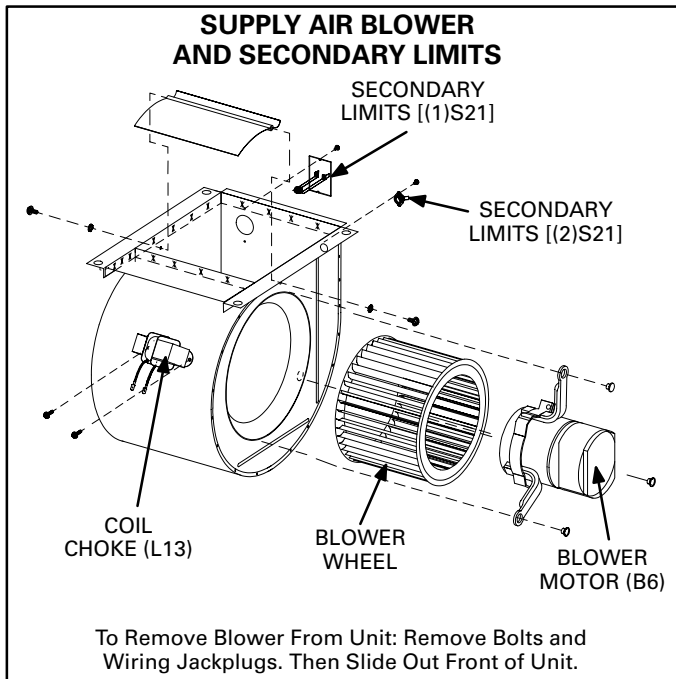
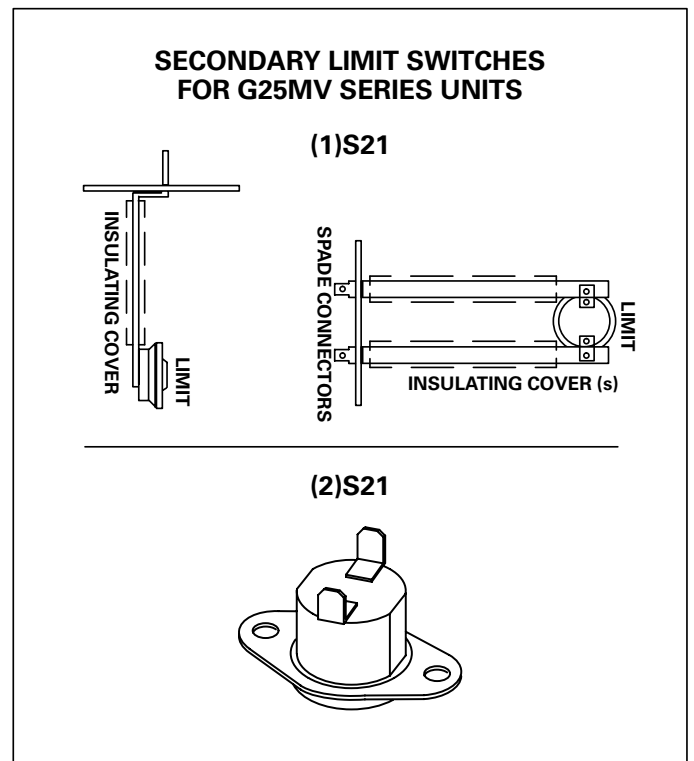
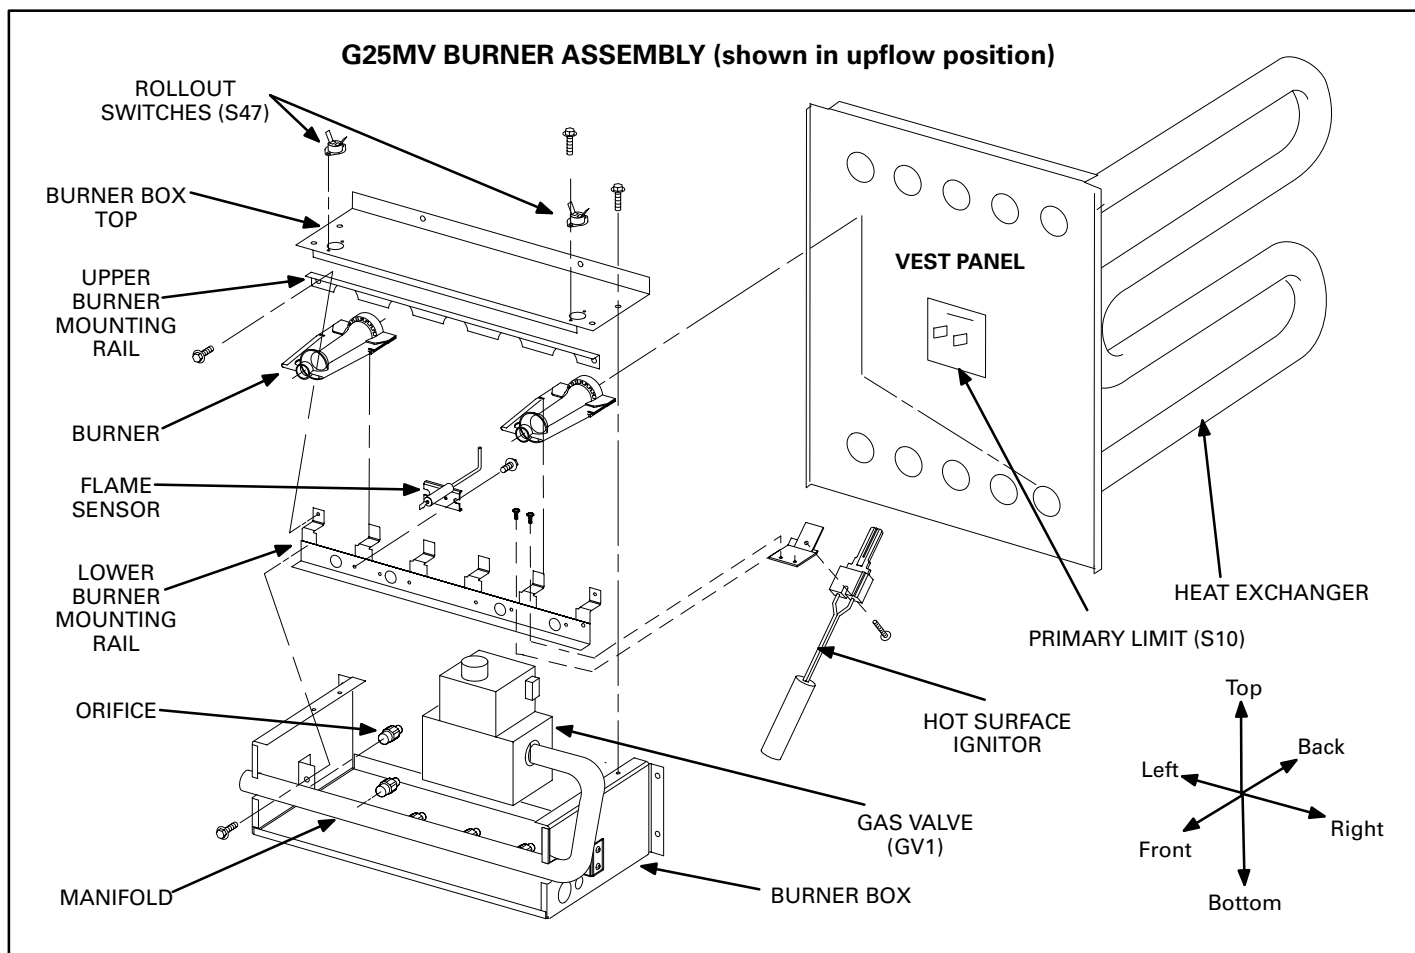

FIGURE 8
FIGURE 14
FIGURE 16
B-Blower Compartment (Figure 8)
The secondary limit switches [(1)S21 and (2)S21] on G25MV units are located in the blower compartment on the back side of the blower housing (see figure 8). When excess heat is sensed in the blower compartment, the limit will open. If the limit is tripped, the burner control energizes the supply air blower and closes the gas valve. The limit automatically resets when unit temperature returns to normal. Two limits are supplied in each furnace and each limit is a different style. Figure 14 shows both styles. Both switches are N.C. SPST auto-reset switches which actuate on a temperature rise. The switches are factory set and cannot be adjusted. The (1)S21 limit shown on the top opens at $140^{\circ}\text{F} \pm 5^{\circ}\text{F}$ ($60.0^{\circ}\text{C} \pm 2.8^{\circ}\text{C}$) on a temperature rise and closes at $110^{\circ}\text{F} \pm 10^{\circ}\text{F}$ ($43.3^{\circ}\text{C} \pm 5.6^{\circ}\text{C}$). The (2)S21 limit shown on the bottom opens at $165^{\circ}\text{F} \pm 5^{\circ}\text{F}$ ($73.9^{\circ}\text{C} \pm 2.8^{\circ}\text{C}$) on a temperature rise and closes at $135^{\circ}\text{F} \pm 8^{\circ}\text{F}$ ($57.2^{\circ}\text{C} \pm 4.4^{\circ}\text{C}$).
Flame rollout switch is a high temperature limit switch located on top of the burner box (see figure 16). Each furnace is equipped with two identical switches. One switch is located over the leftmost burner and the other switch is located over the rightmost burner. The switch is a N.C. SPST manual-reset switch which actuates at $267^{\circ}\text{F} \pm 12^{\circ}\text{F}$ ($130.5^{\circ}\text{C} \pm 6.7^{\circ}\text{C}$) on a temperature rise. The switch is factory set and cannot be adjusted. To manually reset a tripped switch, push the reset button located on the control. The switches are connected in series with the burner control A3. When S47 senses rollout, the burner control immediately stops ignition and closes the gas valve. If unit is running and flame rollout is detected, the gas valve will close and ignition control will be disabled. Rollout can be caused by a clogged heat exchanger or a blocked flue.
The primary limit (S10) on G25MV units is located in the middle of the heating vestibule panel (see figure 16). S10 is the same type of limit as shown on the top of figure 14. When excess heat is sensed in the heat exchanger, the limit will open. If the limit is tripped, the burner control energizes the supply air blower and closes the gas valve. The limit automatically resets when unit temperature returns to normal. The switch is factory set and cannot be adjusted. The switch has different setpoints for each unit model number. See table 7. The setpoint will also be printed on the side of the limit.